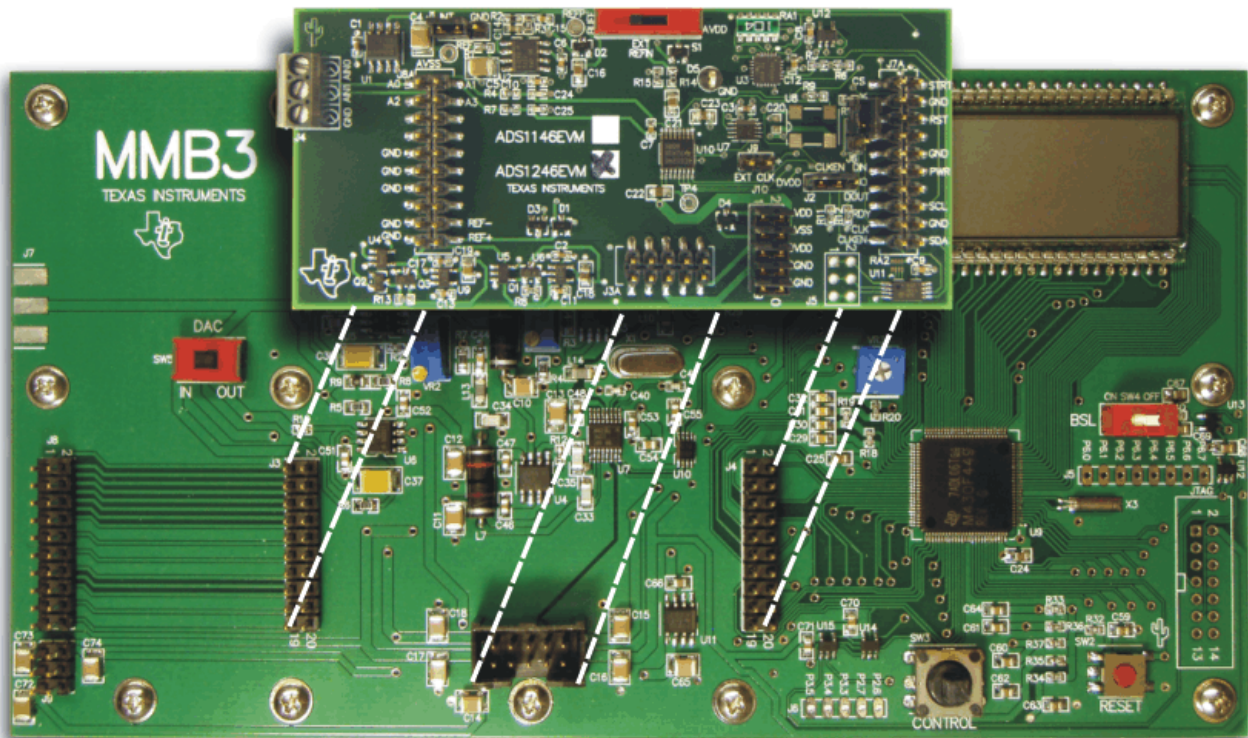

Figure 7. Connecting ADS1246EVM to MMB3
Step 3. Plug the ADS1246EVM into the MMB3 as Figure 7 illustrates.